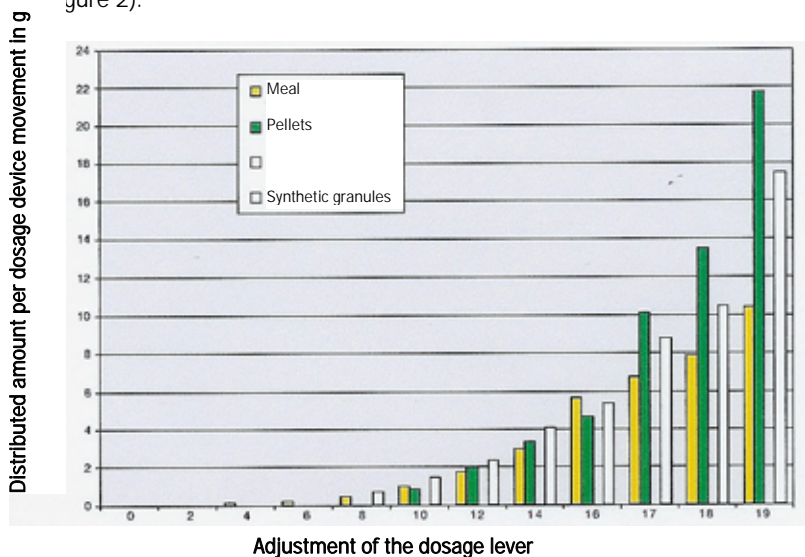
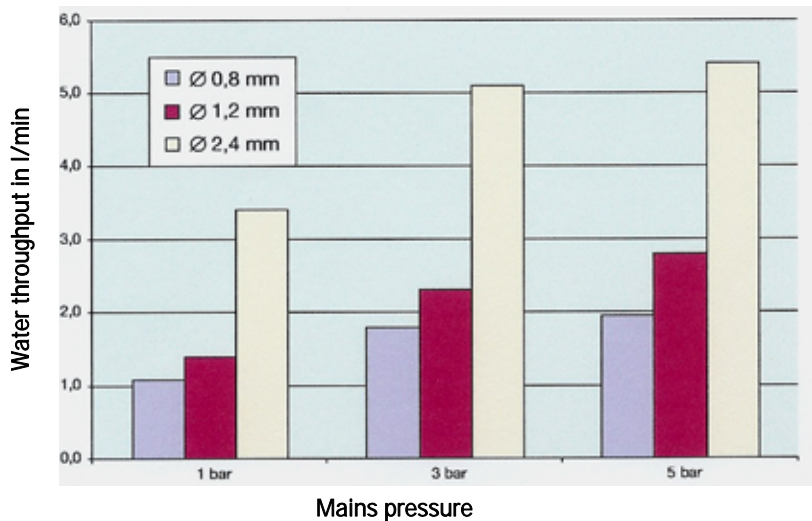

Figure 2:
Figure 3
The feed dosage can be adjusted by gradually; steady adjustment of the gradations is possible. In the laboratory, meal feed trickled into the trough constantly when the adjustment lever was set to level 17. Under operational conditions, the adjustment lever was mostly set to level 16. Hence the quantity falling into the trough per perpendicular movement of the dosage device amounted to maximum 6 g of feed in the case of meal feed (laboratory result, see figure 3). In the case of pellet feed, level 15 was selected under operational conditions, resulting in approx. 5 g per dosage device movement (laboratory result, figure 2).
- It is very complicated to adjust the water throughput, as the drinking nipple has to be removed every time. It is recommended that the drinking nipples are adjusted to the water pressure available on site before the mush tube feeder is put into operation (see figure 3).